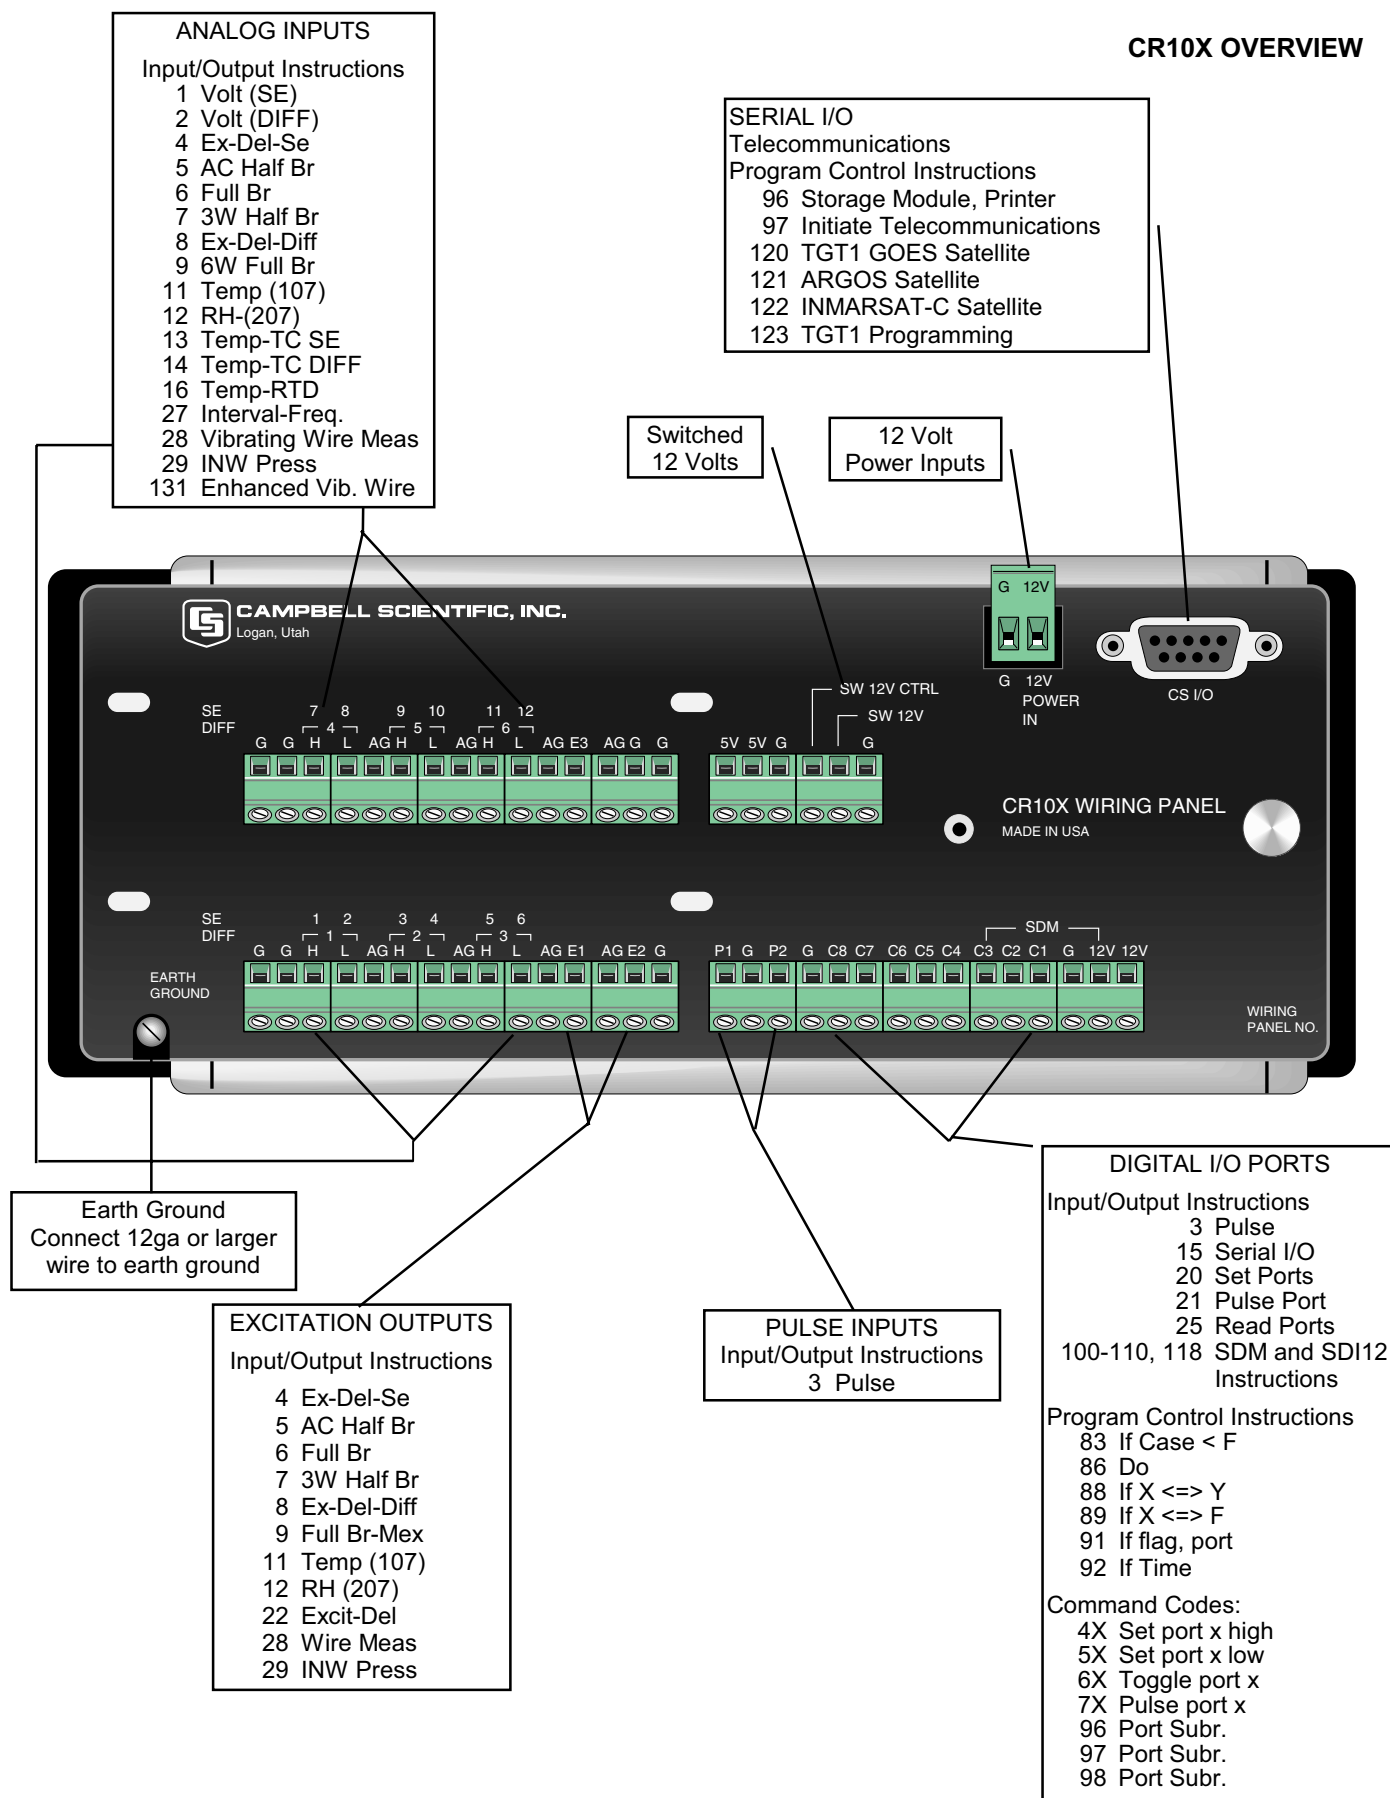

FIGURE OV1.1-2. CR10X Wiring Panel/Programming Instructions
The Wiring Panel contains a 9-pin Serial I/O port used when communicating with the datalogger and provides terminals for connecting sensor, control, and power leads to the CR10X. It also provides transient protection and reverse polarity protection. Figure OV1.1-2 shows the panel and the instructions used to access the various terminals.
1. **INPUT/OUTPUT INSTRUCTIONS** (1-29, 100-110, 113-115, Section 9) control the terminal strip inputs and outputs (Figure OV1.1-2), storing the results in Input Storage (destination). Multiplier and offset parameters allow conversion of linear signals into engineering units. The Digital I/O Ports are also addressed with I/O Instructions.